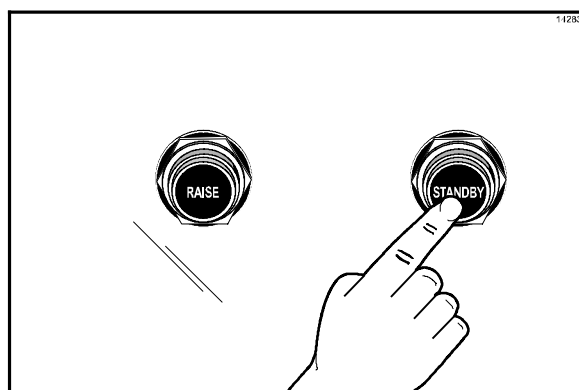

Figure 34
- After placing product in the prescribed method, press the STANDBY button to start the cook cycle. (See Figure 34.)